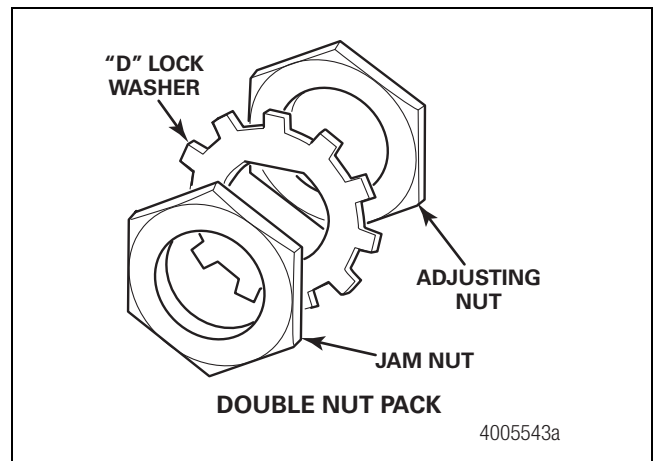

Figure 6.16
6. Install the double nut pack onto the spindle. Figure 6.16.